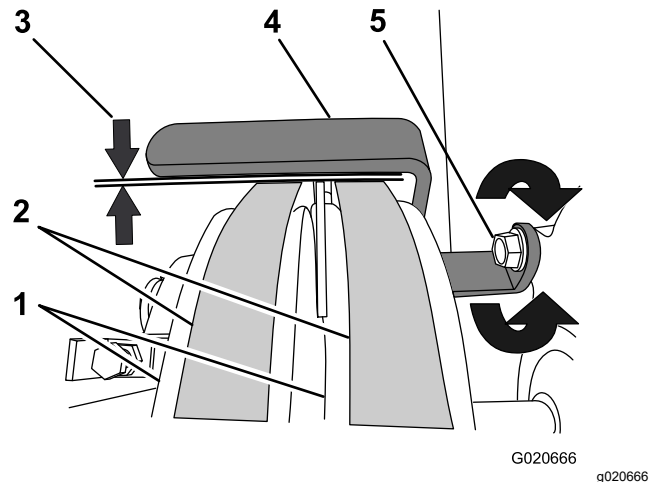

Figure 39
3. Check that the air gap between the belt guide and the belts is 2.5 to 4.0 mm (3/32 to 5/32 inch); refer to Figure 39.
- A. Loosen the nut that secures the belt guide to the motor (Figure 39).
- B. Rotate the belt guide up or down until there is an air gap of 2.5 to 4.0 mm (3/32 to 5/32 inch) between the guide and each belt (Figure 39).
- C. Tighten the nut that secures the belt guide to the motor (Figure 39).